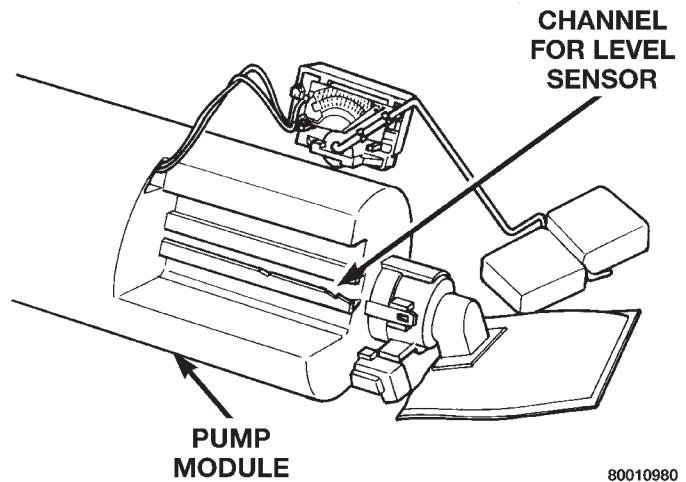

Fig. 26 Installation Channel
(3) While feeding wires into guide grooves, slide level sensor up into channel until it snaps into place (Fig. 26). Ensure tab at bottom of sensor locks in place.